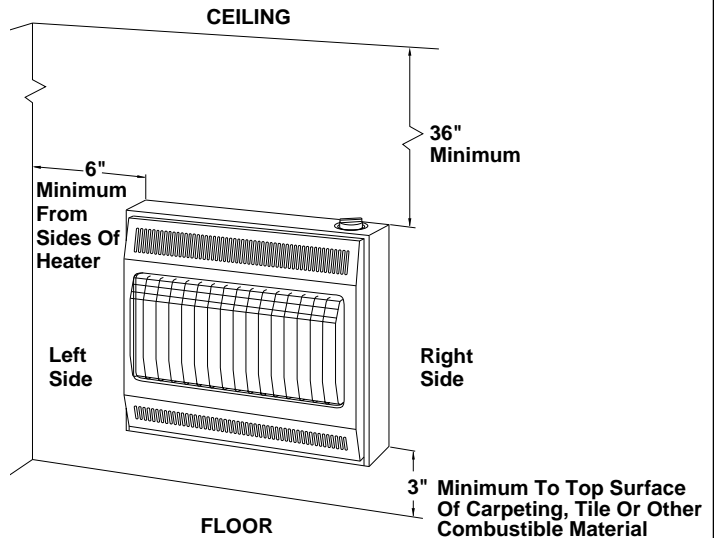

Figure 7. Mounting Clearances As Viewed From Front of Heater
5. This heater has been designed for wall mounting. The clearances from the heater to combustible surfaces **MUST NOT** be less than shown in Figure 7. These are absolute minimum clearances. Greater clearances should be allowed if possible. The heater can also be mounted to an optional floor mounting base that is sold as a separate accessory. If a base accessory is used, be sure the base is securely attached to the floor.